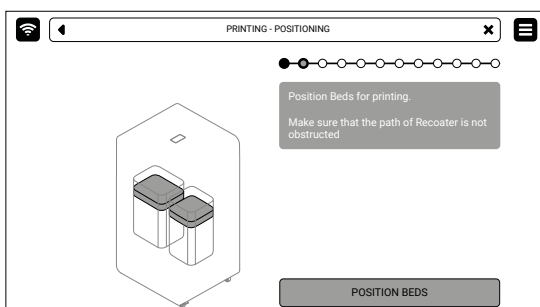

Fig. 2.4 **POSITIONING BEDS** screen.
4. Press **POSITION BEDS** to begin the positioning process of the Beds (fig. 2.4).